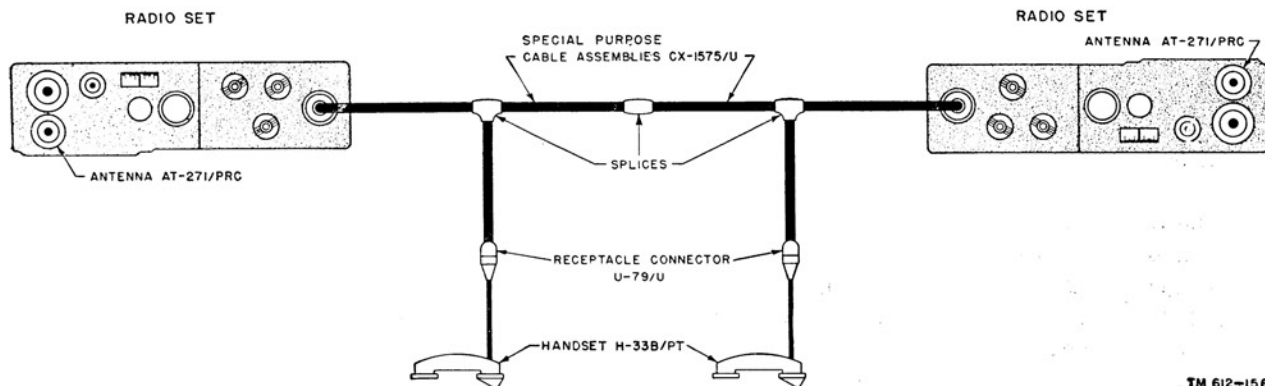

Figure 16. Relay operation, connections.
*a.* Attach the connectors on the ends of the relay cable to the **AUDIO** connectors on the two radio sets which are being used as the relay station (fig. 16). Attach two handsets to the connectors which are spliced to the relay cable.